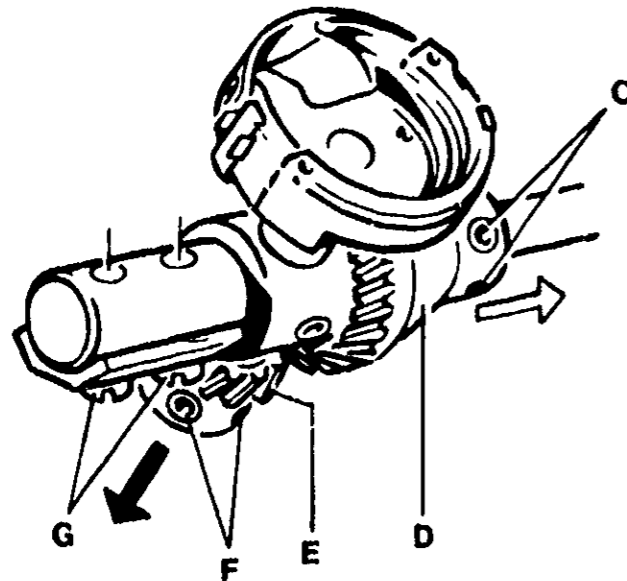

FIGURE 37
- Loosen screws (C) (Figure 37) and slide crown gear (D) away from shuttle hook pinion gear (E)
- Loosen screws (F) (Figure 37) and remove shuttle hook pinion gear (E) Loosen screws (G) slightly